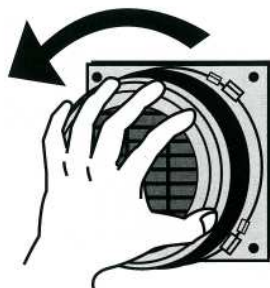

FIG. 6
7. This ventilator can be easily released off by twist anti-clockwise (see fig 6), for cleaning dust after long period running. To replace in the unit by twisting clockwise into the 4 slots (see fig 7).